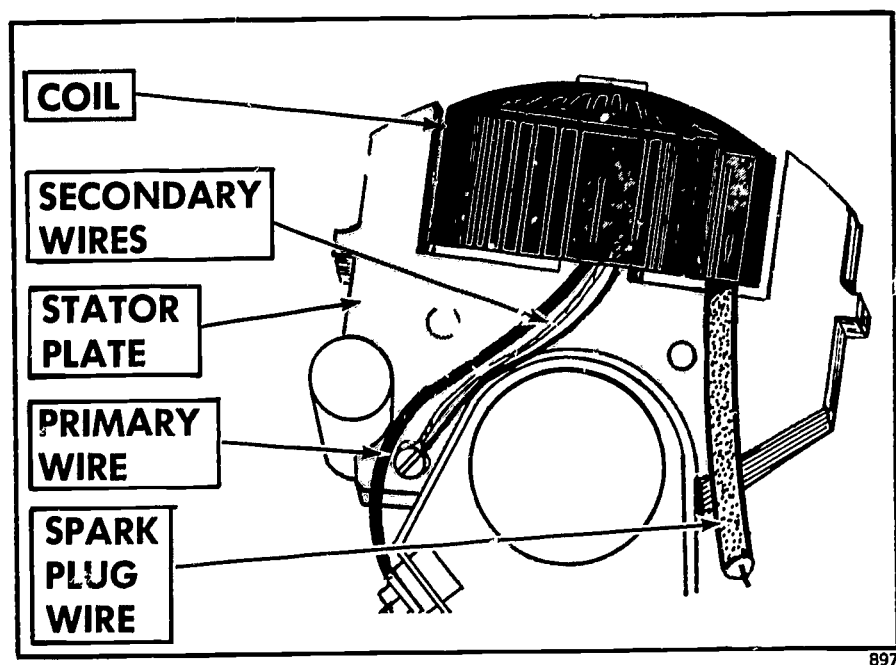

FIGURE 115. Make a thorough check of the coil, coil wires and connections before deciding to replace it.
1. Inspect coil assembly for damage (Figure 115).